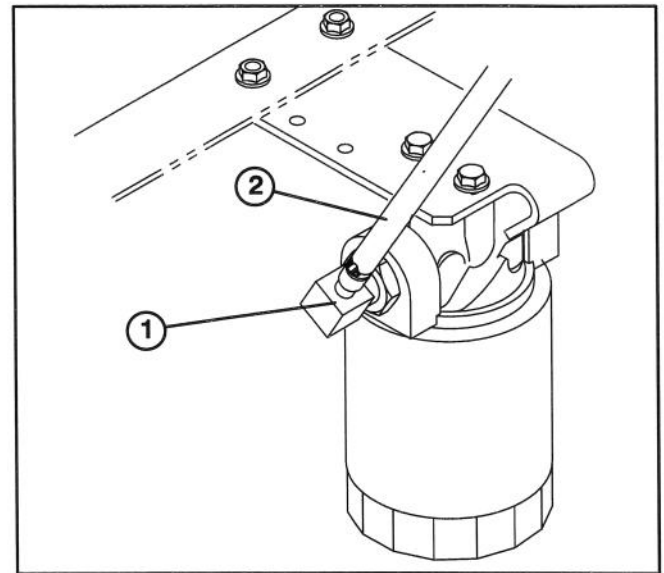

Figure 17
30. Loosen hose clamp securing other end of hydraulic hose to "IN" port fitting of hydraulic filter (Fig. 17). Remove hose from fitting. Cut off approximately 13–1/2 inches from end of hose and reconnect to filter with hose clamp.